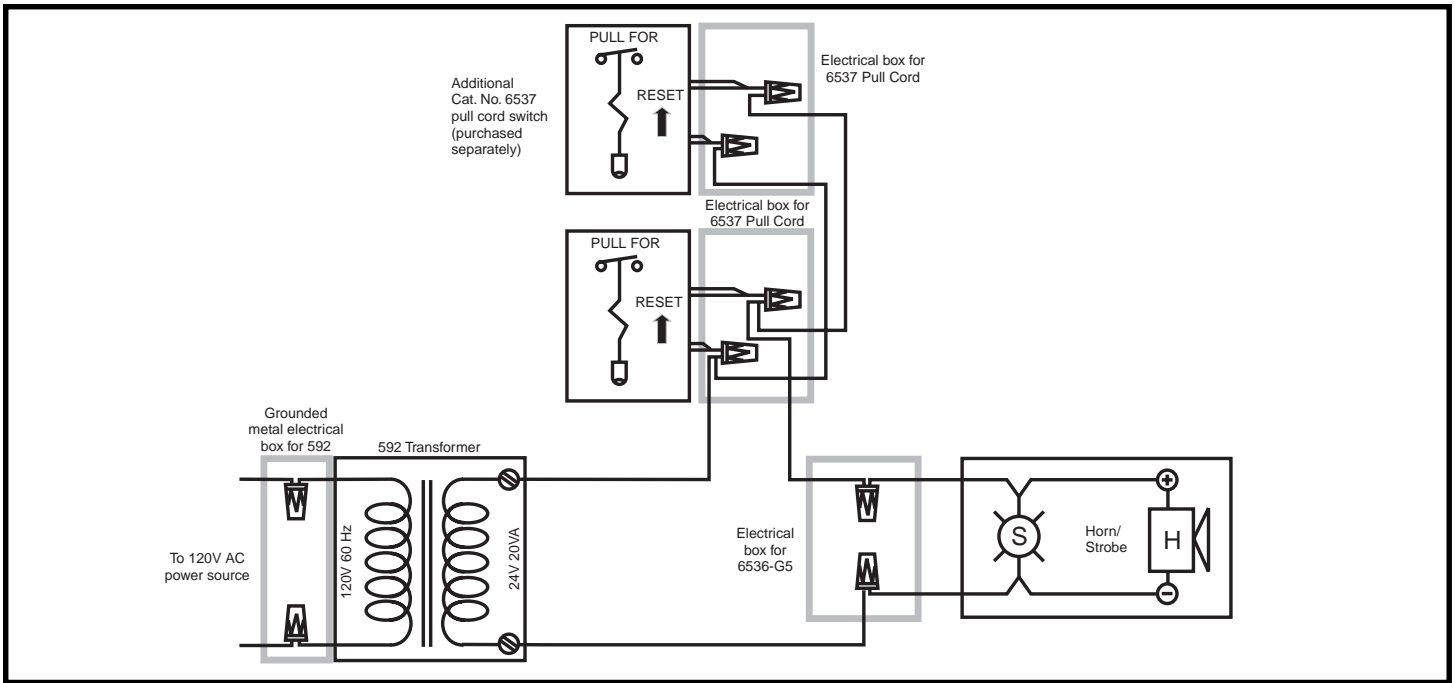

Figure 1. Connecting Catalog No. 6538-G5 Call for Assistance Package
1. Install Cat. No. 6537 Pull Cord Switch (Figures 1 and 2).
2. Install Catalog No. 6536-G5 horn/strobe (Figures 1 and 4).
3. Install Catalog No. 592 Transformer (Figures 1 and 3).